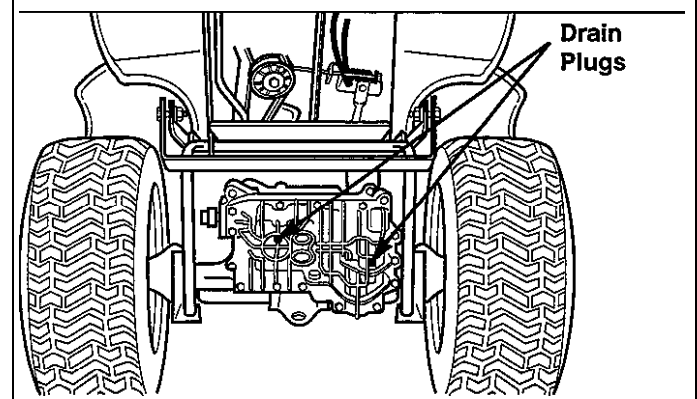

Figure 20. Draining the Hydro Transmission
4. Remove the drain plugs from the bottom of the transmission case and drain the transmission (Figure 20).